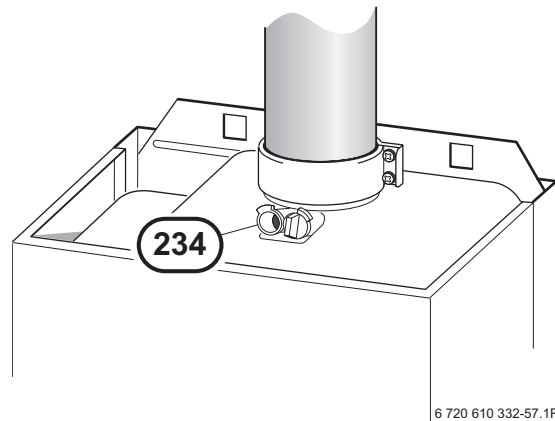

Fig. 43
- Switch on the appliance at the master switch (I).
- Unscrew sealing plug from flue gas testing point (234). Refer to fig. 43.